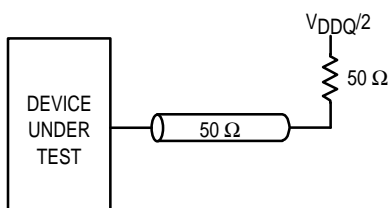

Figure 1A
1. Tested per AC Test Load diagram. See Figure 1A.